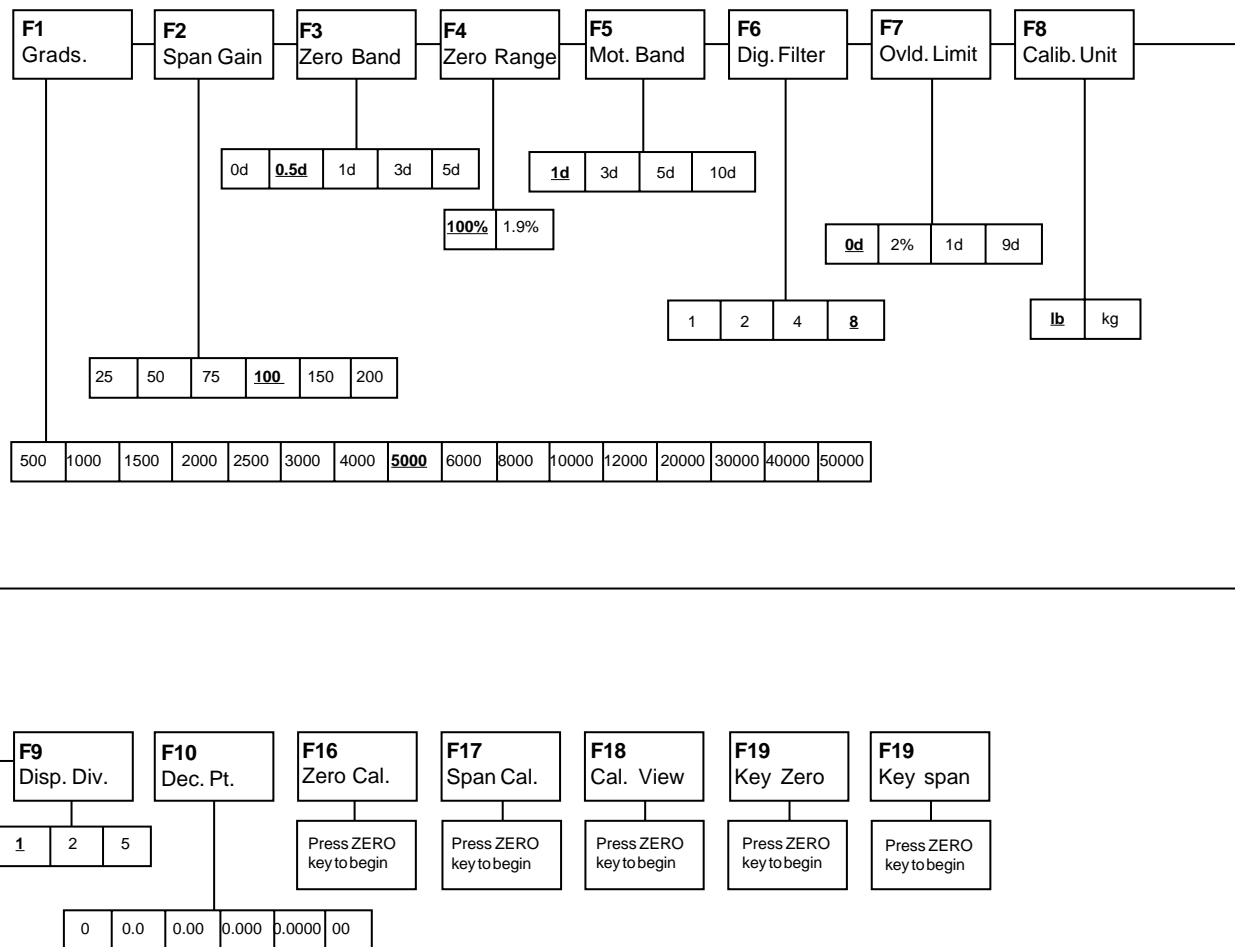

Figure 3: System Keyword Setup Mode Menu
Figure 3 is a map of the setup menu.
- 2) Once in this mode, scroll to keyword F16 (please refer to **Figure 3** on page 4).